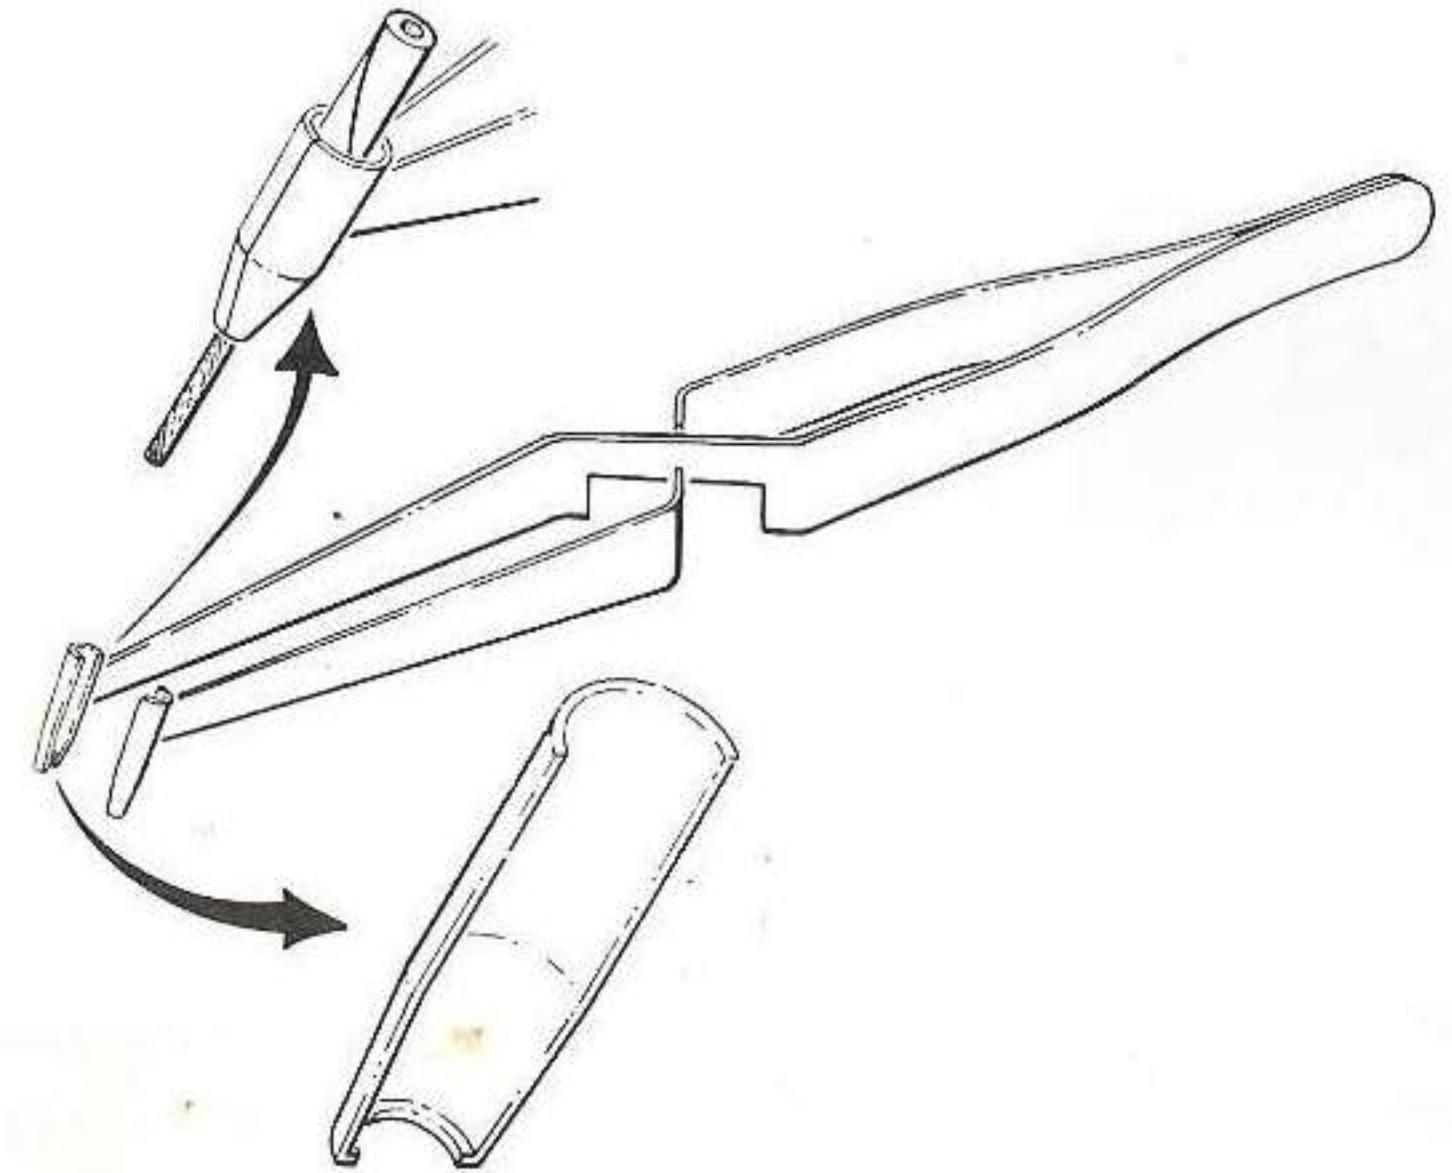

Figure 12. Heat Shunt
a. Stranded conductors shall be tinned (pre-soldered) before soldering to terminals and other connections. A heat shunt, lightly gripping the wire, will prevent solder from flowing beneath the insulation during tinning and soldering operations. See figure 12. Tinning on the wire should only extend far enough to take full advantage of the depth of the terminal or solder cup. Tinning or solder beyond the terminals or solder pots on wire where flexing may occur will cause the wire to become stiff. This may result in broken connections. Care should be taken to avoid dripping or spraying solder when tinning conductors or terminals within equipment. Twist stranded wire in the original direction of the individual strands.